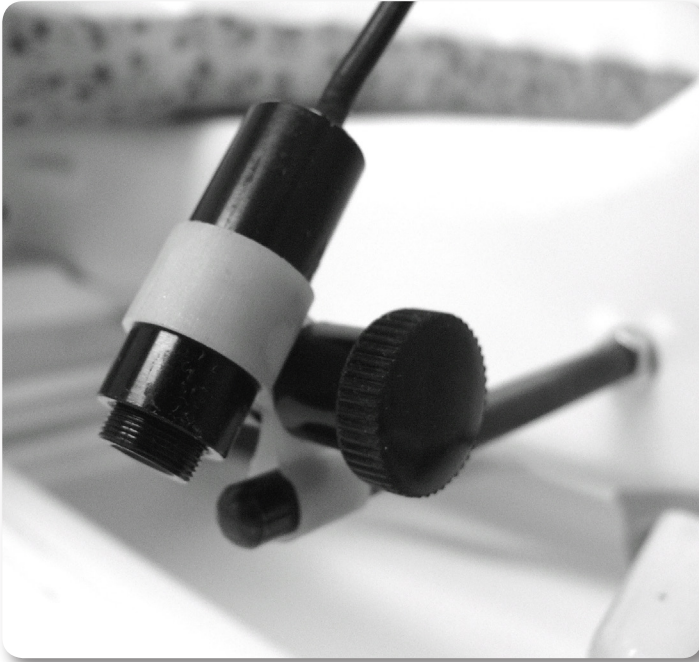

Figure 11
4. Plug the laser into the top port on the side of the front electronic control pod (see Figure 11).